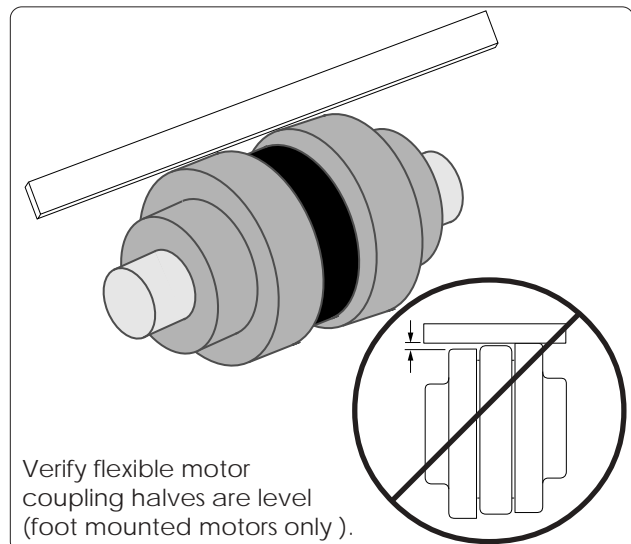
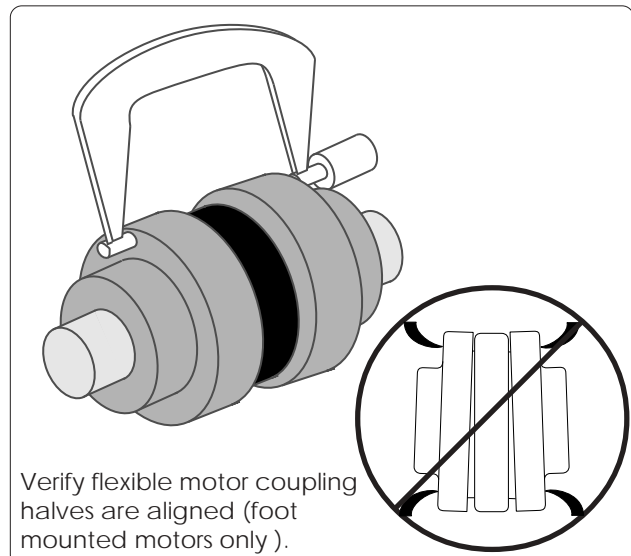

FIGURE B7.4
FIGURE B7.5
**B7.10 Motor couplings:** C-face motor inputs require no coupling alignment. To remove the motor from the gearbox remove mounting bolts and loosen the coupling set screws. Foot mounted motors require proper alignment. Check parallel alignment by placing a straight edge across the two coupling halves at various points without rotating the motor (see figure B7.4). Offset should not exceed 0.015". Check angular alignment with micrometers or calipers (see figure B7.5). Measure from the outside of each half at various points without rotating the motor. The difference between the max and min. dimensions should not exceed 0.015". To realign the motor shim the feet and recheck the alignment. After the coupling has been aligned verify that the keys and setscrews are tight and that the guards are in place.